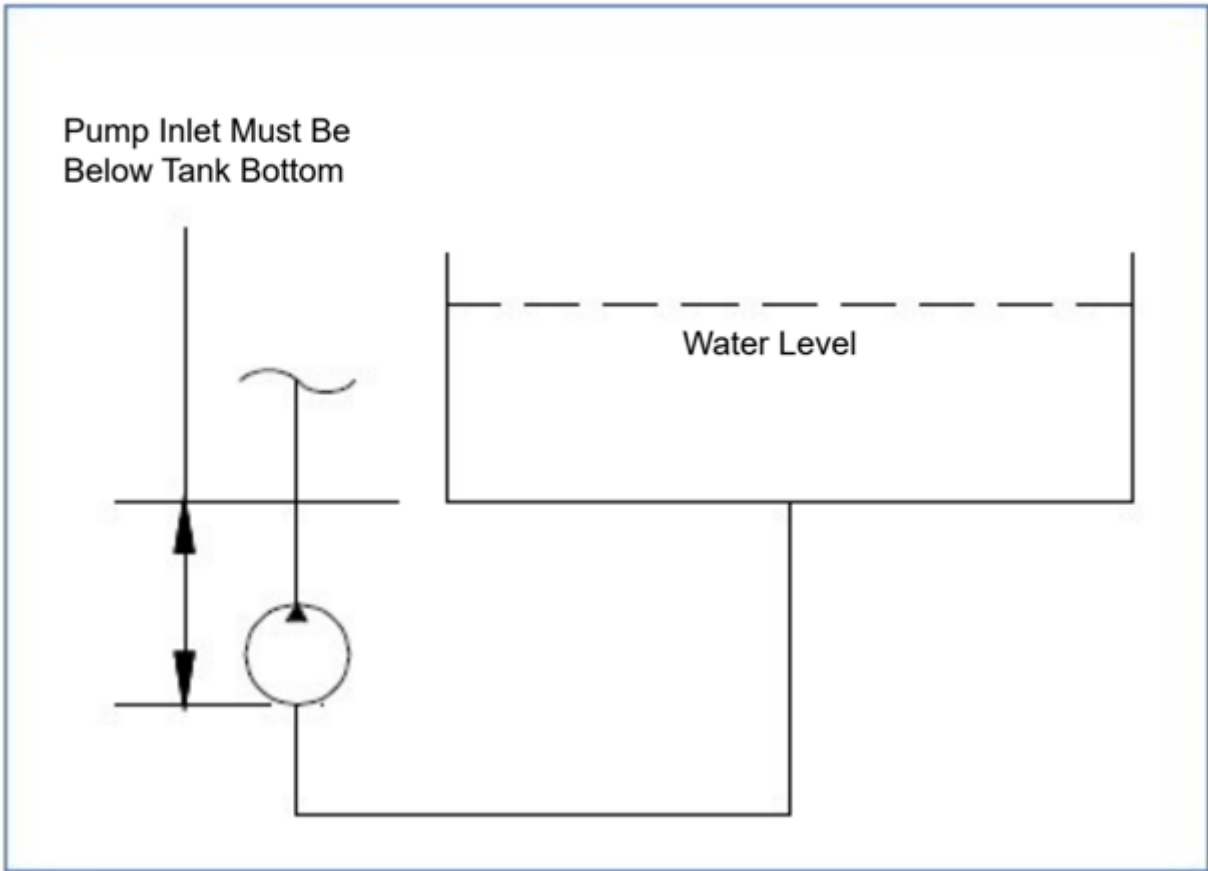

Figure 4.3 – Gravity Feeding Source
- Gravity feeding water source (See Figure 4.3). Use a hose with a diameter of at least 1-1/4" to connect the water tank to the power unit water inlet.
Ensure that the water source can reliably deliver the maximum pump flow of 17 GPM (65 L/m). A minimum flow of 30 GPM (114 L/m) is recommended to ensure that the pump is not starved of water. If connecting to a gravity feed tank, locate the tank outlet above the water inlet connection on the power unit to ensure a flooded suction line. (See Figure 4.3).